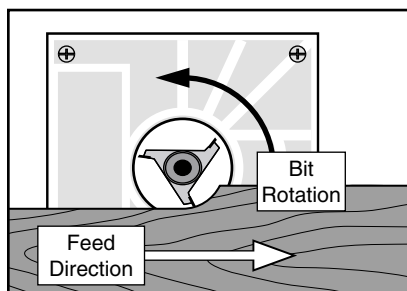

Figure 5. Correct feed direction and grain orientation (bottom view).
1. Examine the top face of the workpiece and determine the direction of the grain. Feed the router so the bit is cutting with the grain (cutting along the growth rings as shown in **Figure 5**). Cutting against the grain chips the wood rather than cutting it, making a rougher surface with more “chip out.”
2. Always pass the router across the workpiece so the bit is rotating opposite the feed direction as shown in **Figure 5**. If the cutters are moving in the same direction you are feeding the router, you are performing a “climb cut.” This is a very dangerous operation because the router could lunge forward out of your hands, causing serious personal injury.